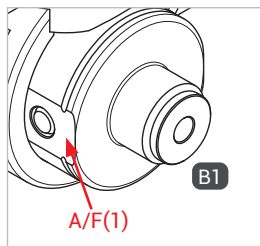

Figure 1
- ▶ When mounting media hose line, hold an open-ended wrench against the wrench size AF(1) (Figure 1).
- ▶ Screw the "B1" media inlet pressure-tight to the port for the media hose line (Figure 1). For the tightening torque, please refer to the table below.